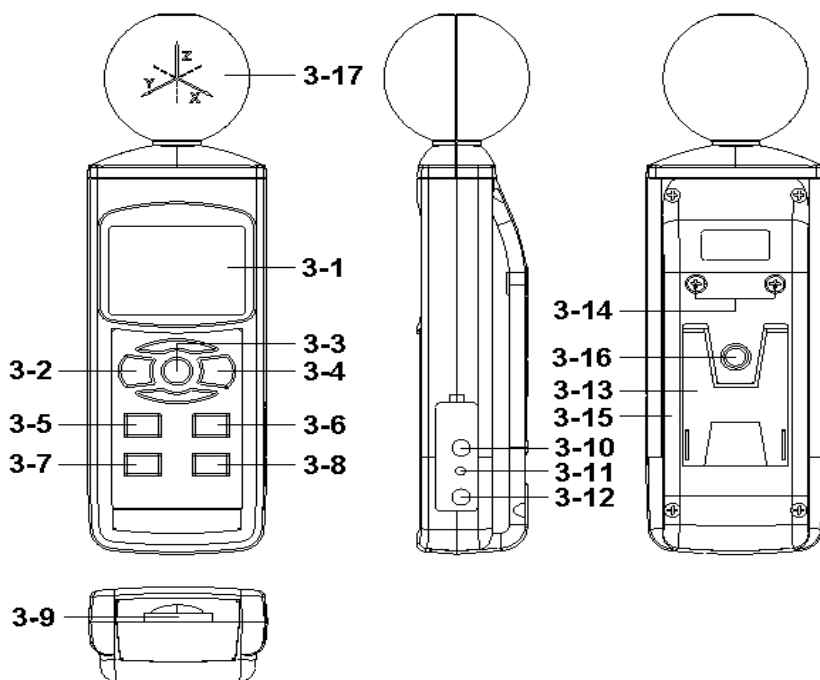

Fig. 1
(3-2, Fig. 1) > 1.5 seconds continuously.
** Pressing the " Power Button " (3-2, Fig. 1)
pressing and hold the " Function Button "(3-6, Fig. 1),
pressing and hold the " UNIT Button "(3-5, Fig. 1),
During the measurement, press the " Hold Button " (3-3, Fig. 1) once will hold the measured value & the " HOLD " symbol will be light, Press the " Hold Button " once again will release the data hold function , (3-20, Fig. 1) HOLD symbol will be quenched
- 1) The data record function records the maximum and minimum readings. Press the " REC Button " (3-4, Fig.1) once to start the Data Record function and there will be a " REC " symbol indicator " will be light.
- a) Press the " REC Button " (3-4, Fig. 1) once, the " REC and MAX Symbol indicator will be light , and the maximum value will appear on the display.
- b) Press the " REC Button " (3-4, Fig. 1) again, the " REC and MIN " Symbol indicator will be light , and the minimum value will appear on the display.
Prepare a " SD memory card " (1 G to 16 G, optional), insert the SD card into the " SD card socket " (3-9, Fig. 1). The front panel of the SD card should face against the the down case.
Press the " LOG Button (3-8, Fig. 1) > 1.5 seconds continuously, the LCD will show the text of " LOGGER " indicator and flashing per second, at the same time the measuring data along the time information will be saved into the memory circuit.
During execute the Datalogger function, if press the " LOG Button " (3-8, Fig. 1) once will pause the Datalogger function (stop to save the measuring data into the memory circuit temporarily). In the same time the " LOGGER " symbol will stop flashing.
If press the " LOG Button " (3-8, Fig. 1) once again will execute the Datalogger again, the " LOGGER " symbol will flashing.
During execute the Datalogger function, press the " LOG Button (3-8, Fig. 1) > 1.5 seconds continuously again will finish the Datalogger function, the " LOGGER " text will be disappeared and finish the Datalogger function.
Press the " LOG Button (3-8, Fig. 1)>1.5 second, the LCD will show the indecator " LOGGER " and " Position no. " symbol then press the " LOG Button " (3-8, Fig. 1) once , the " LOGGER " symbol will flashing once and Beeper will sound once at the same time the measuring data along the time information will be saved into the memory circuit .
During execute the Manual Datalogger, it can use the " ▲ Button " (3-5, Fig. 1) or " ▼ Button " (3-6, Fig. 1) to set the measuring position (1 to 99, for example room 1 to room 99) to identify the measurement location , the Top Display will show P x (x = 1 to 99).
During execute the Datalogger function, press the " LOG Button (3-8, Fig. 1) > 1.5 seconds continuously again will finish the Datalooger function, the Position no. " PXX " will be disappeared and finish the Datalogger function.
During the normal measurement (not execute the Datalogger), If press " Time " (3-7, Fig. 1) once , the LCD display will present the time information of Year/Month/Date ,Hour/ Minute/Second and the Sampling time information in sequence.